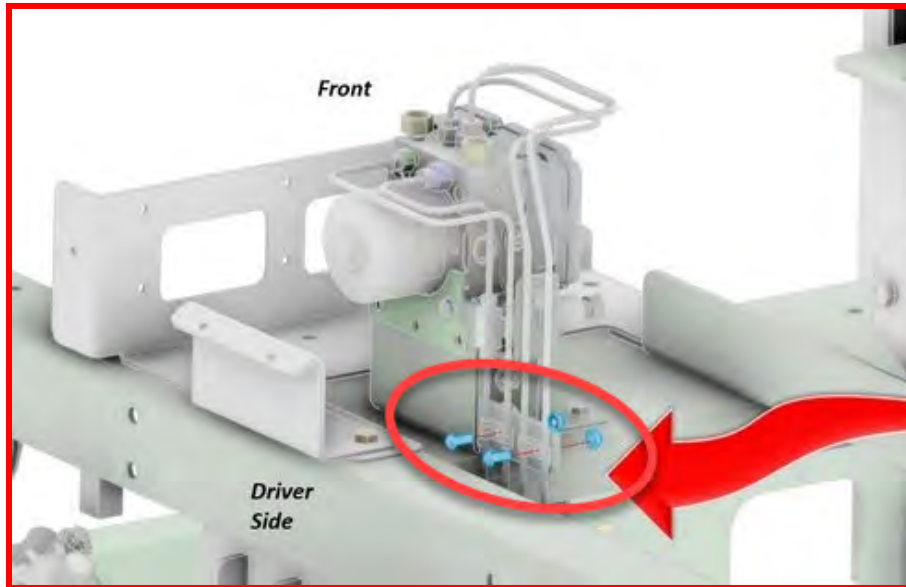

Figure 20 - Brake Line Clamp near ABS Assembly
15. Separate the right front brake line assembly from the six (6) brake turing clips along the routing of the brake line.
- a. Three (3) clips on the drivers side frame rail
- b. Two (2) clips on the second crossmember
- c. One (1) clip on the passenger side frame rail
16. Remove the brake line clamp near the ABS Assembly (Figure 20)